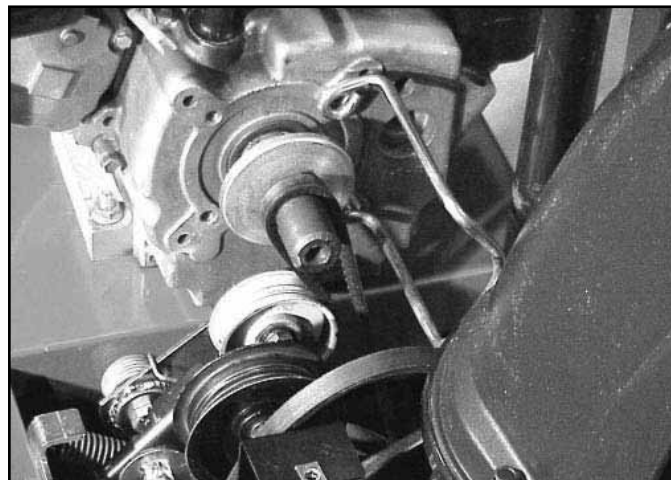

Fig 064
1. Slip the center section of the crankshaft pulley off the crankshaft (Fig. 064).